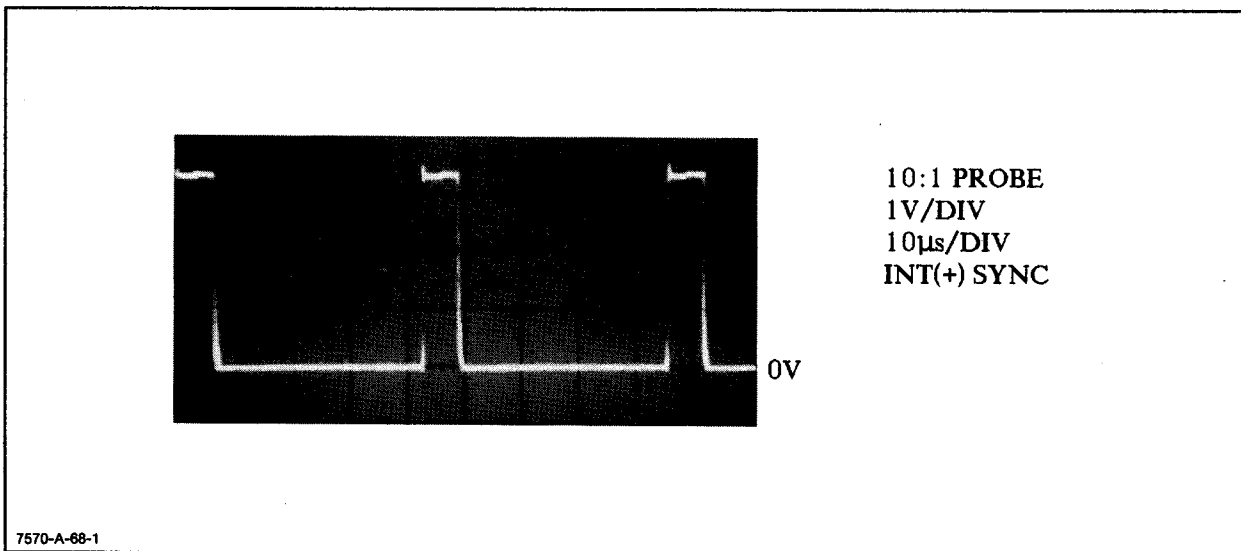

Figure 8-10. Motor Drive Output
- h. Each drive signal should appear similar to the waveform in Figure 8-10.